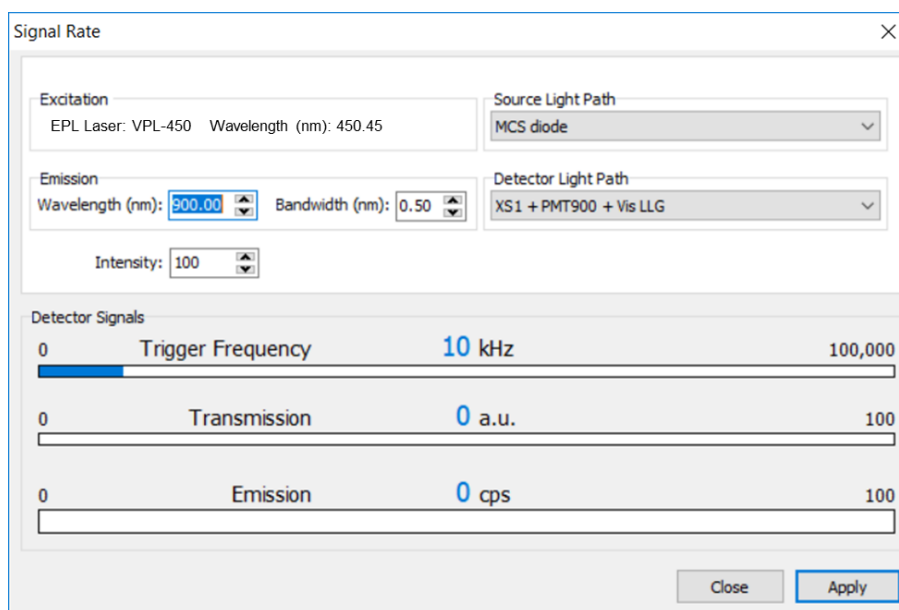
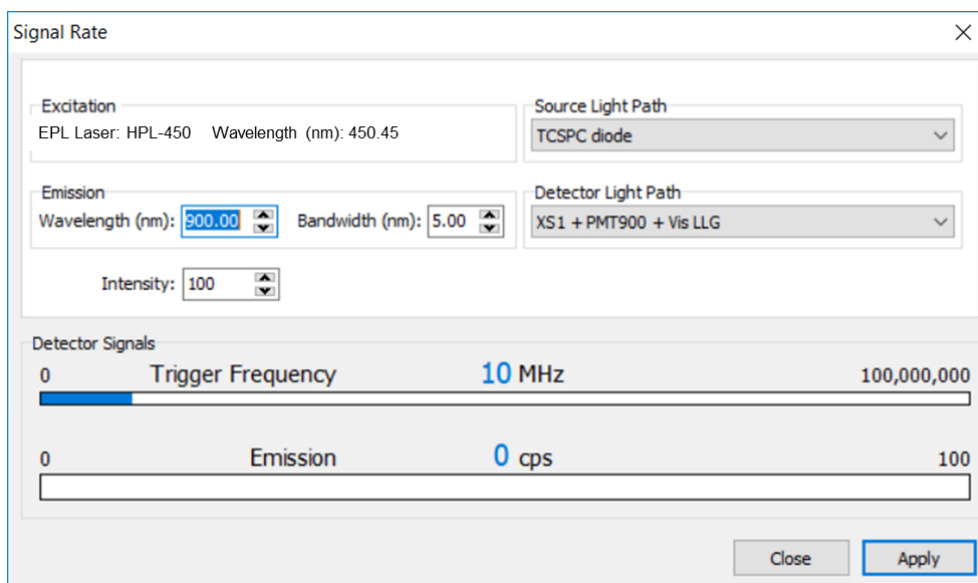

Figure 20: Signal rate screen, MCS measurements.
Figure 22: Signal rate screen, TCSPC measurements.
- a. Select the appropriate light paths on the signal rate window (Figure 20), i.e. MCS diode light path as the excitation source, and the XS1 as the emission path with the correct emission properties (grating, detector and light guide).
- a. Select the appropriate light paths on the signal rate window (Figure 22), i.e. TCSPC diode light path as the excitation source, and the XS1 as the emission path with the correct emission properties (grating, detector and light guide).
- a. Select the appropriate light paths on the signal rate window, i.e. MCS diode light path for MCS TRES (Figure 20) or TCSPC diode for TCSPC TRES (Figure 22), and the XS1 as the emission path with the correct emission properties (grating, detector and light guide).